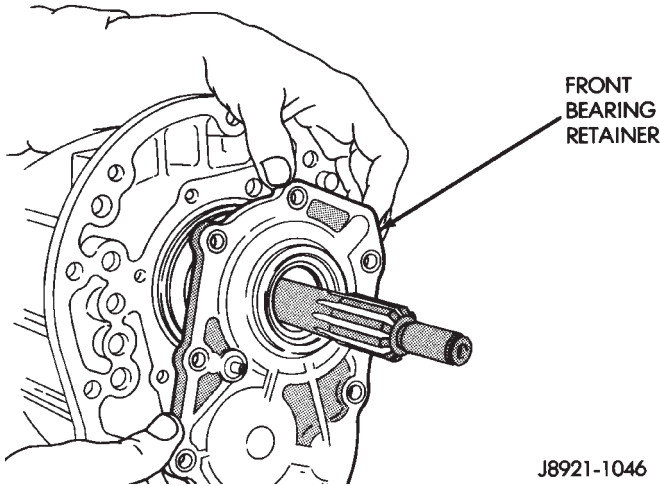

Fig. 36 Install Front Bearing Retainer
(5) Install front bearing retainer gasket to front bearing retainer.
(6) Install the front bearing retainer (Fig. 36) and tighten bolts to 17 N·m (12 ft. lbs.).
(7) On 4x2 transmissions;